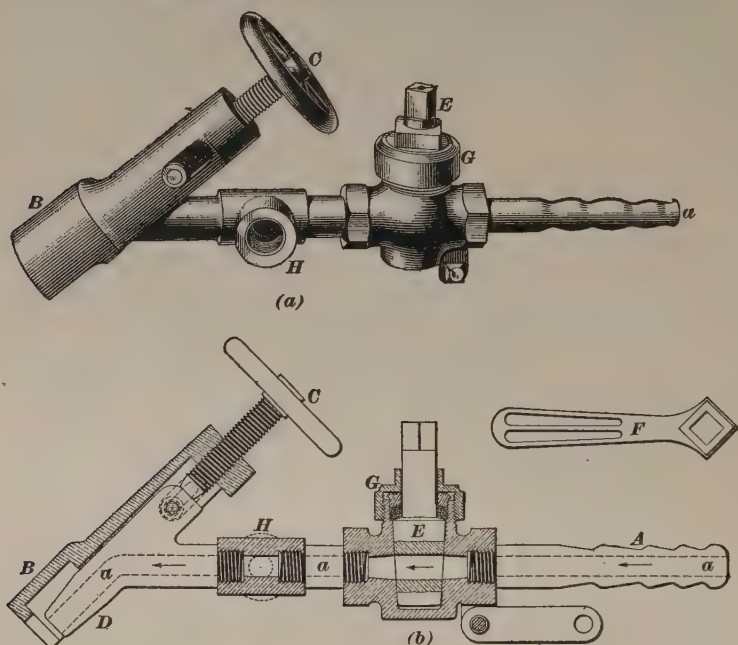

FIG. 27
28. When about to charge a car the filling valve is connected to the hose leading from the charging line by means of a special hose fitting shown in Fig. 27, in which (a) is an